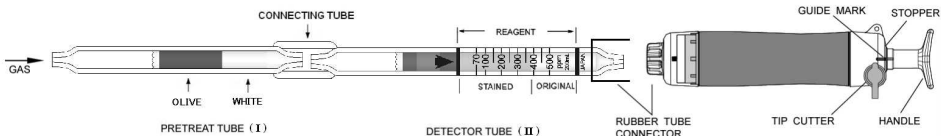

Fig.1
- ① Break both ends of the detector tube (II) and pretreat tube (I), and connect each end of the detector tube and pretreat tube with connecting tube as shown in Fig.1.
- ② Insert the detector tube into the aspirating pump securely as shown in Fig.1. (Arrow mark shall point to the pump.)
- ③ Align the guide marks on the shaft and stopper of the aspirating pump.
- ④ Pull the pump handle at a full stroke until it locks and wait for 1.5 minutes or until the completion of sampling is confirmed with the flow indicator of the pump. (See descriptions about the flow indicator in the instruction manual of the pump.)
- ⑤ Push back the handle without removing the detector tube from the rubber tube connector so that air in the pump will be discharged perfectly. Then repeat the step ③~④ once more.
- ⑥ On completion of sampling, read the scale at the maximum point of the stained layer.
- ⑦ When the concentration is below the scale range, 3 or 4 pump strokes can be used to determine concentrations of 35 to 250 ppm or 23 to 167 ppm. Then multiply the reading value by 1/2 or 1/3 respectively after temperature correction.